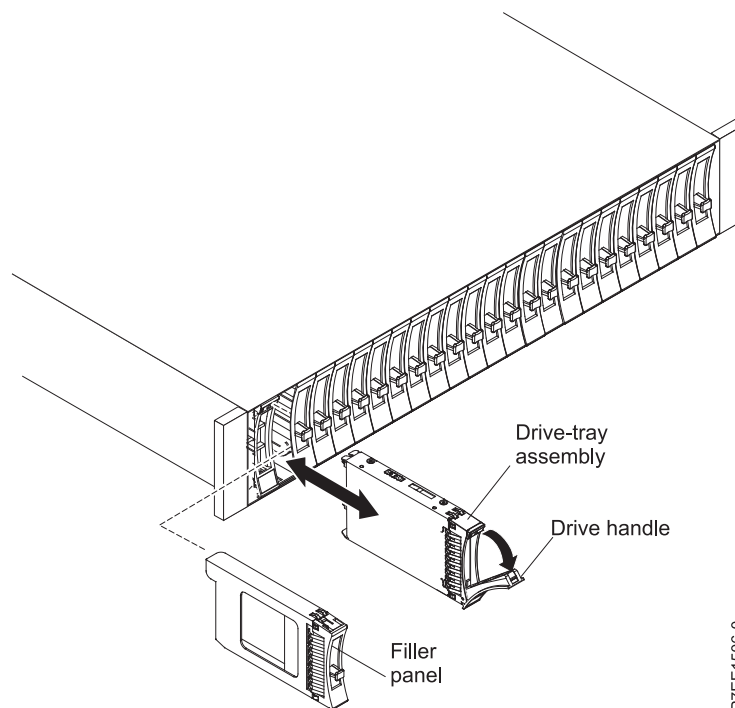

Figure 53. Removing a drive from the 5887 disk drive enclosure
4. Grasp the front of the drive and pull it out from the slot, ensuring that you support the bottom of the drive, as shown in Figure 53.